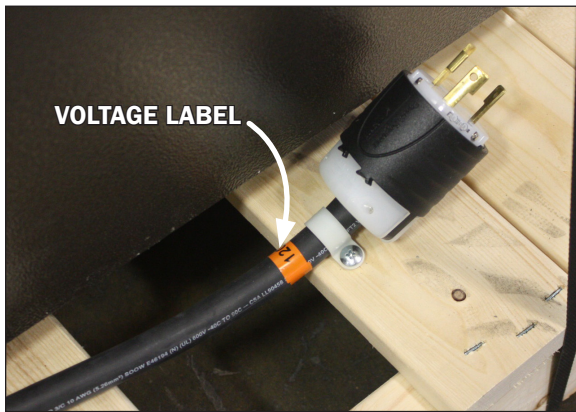

Fig. 7 Main power cord voltage label
Prior to plugging in and starting up the case always check the data tag located on the left end exterior panel or top interior of the case, as well as the voltage label found on the main power cord (Fig. 7) which can be found at the rear base panel. **Note: Check that the voltage of the receptacle you are going to use for power and the voltage required for the case match.**
1. After the main power cord (Fig. 7) located at the base panel of the case is plugged in and the power switch (Fig. 9) flipped to ON the case should begin normal operations.